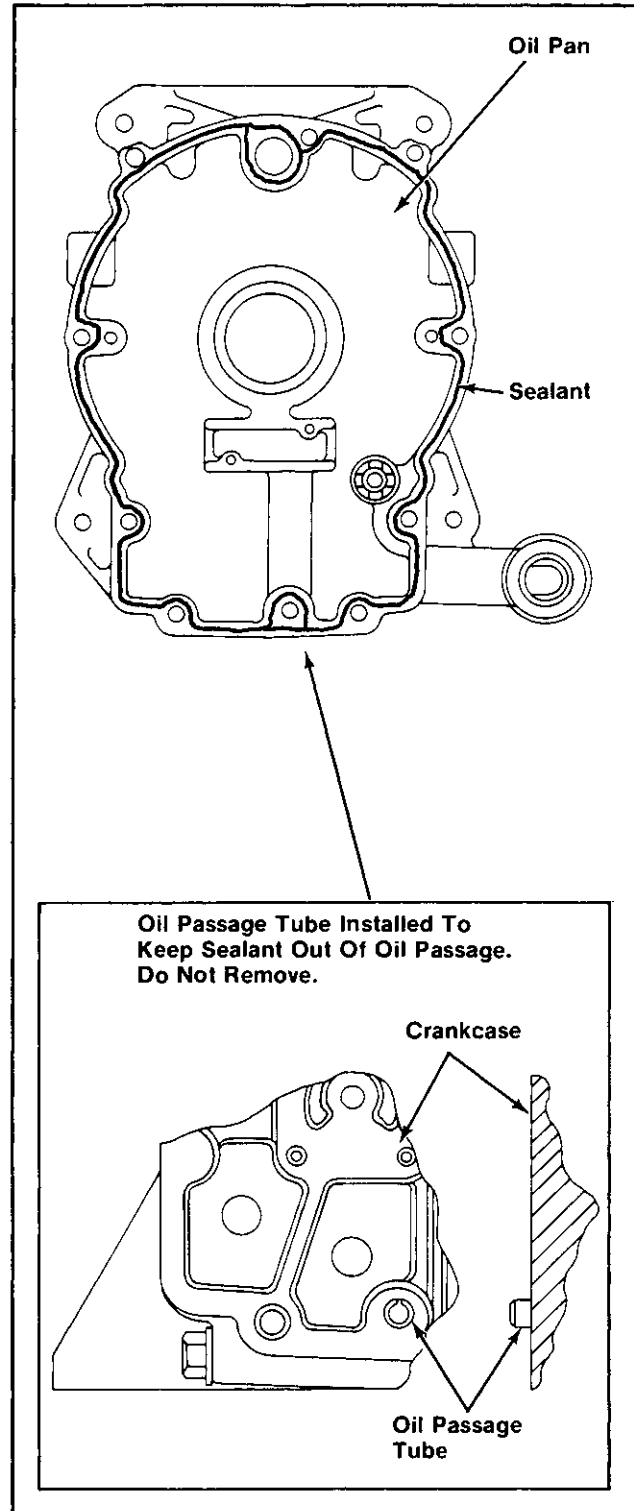

Figure 11-25. Oil Pan Sealant Pattern.
4. Apply a 1/16" bead of sealant to the **oil pan** as shown in Figure 11-25. Follow the sealant manufacturer's recommendations regarding setting.